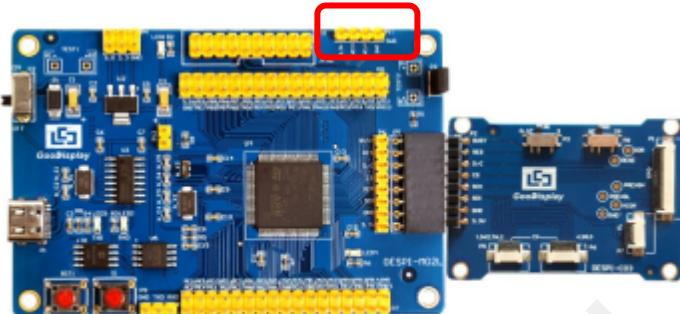

Figure 14: SWD interface
- 1) As shown in figure 14, DESPI-M02L has a 4-wire SWD interface, which can be connected to the simulator interface by 4 wires and then connect the simulator to the computer.